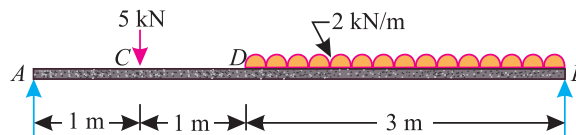

Fig. 16.9. Using the principle of virtual work, find the reactions at A and B.
**Example 16.4.** A simply supported beam AB of span 5 m is loaded as shown in Fig. 16.9.